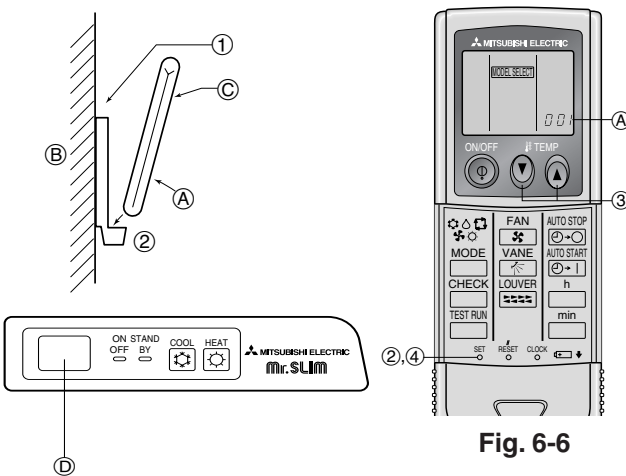
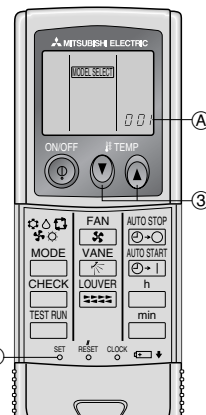

Fig. 6-5
Fig. 6-6
2) Installation method (Fig. 6-5)
① Attach the remote controller holder to the desired location using two tapping screws.
② Place the lower end of the controller into the holder.
③ Remote controller
④ Wall
⑤ Display panel
⑥ Receiver
3) Setting (Fig. 6-6)
① Insert batteries.
② Press the SET button with something sharp at the end.